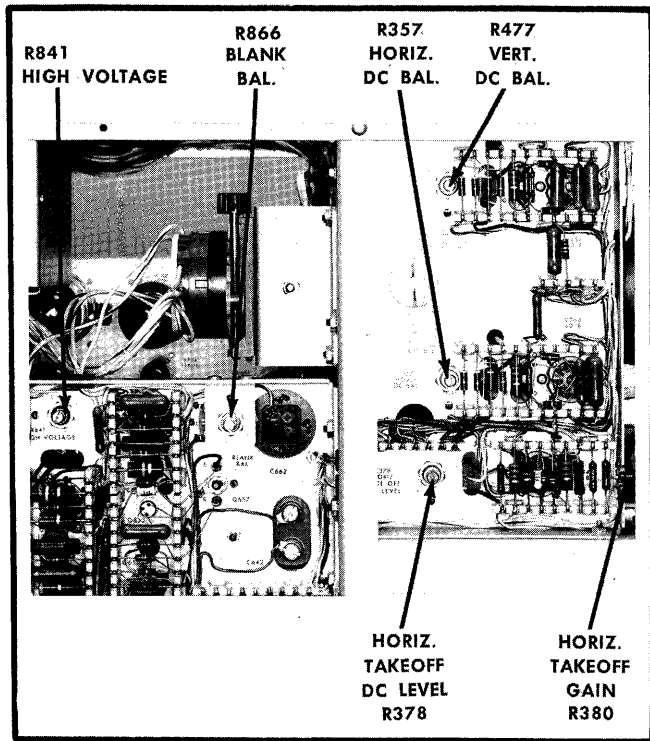
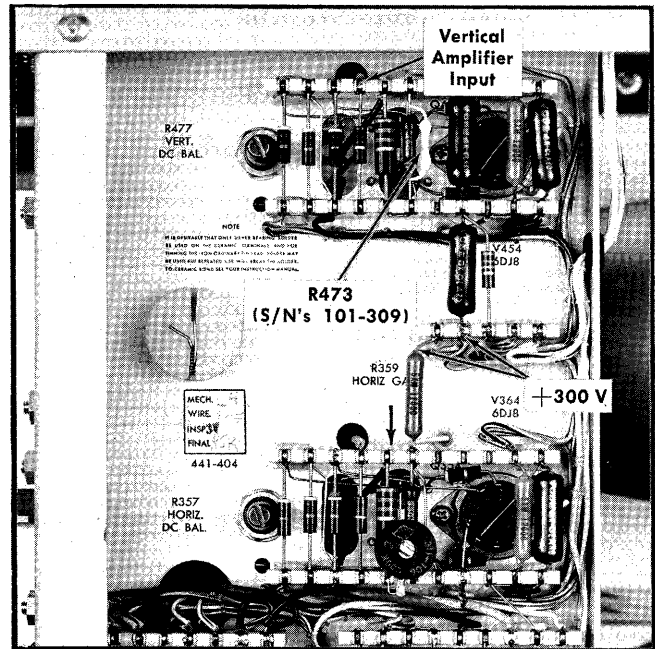

Fig. 5-2. Location of some adjustments on left side of oscilloscope (for instruments with serial numbers 101 through 309).
Fig. 5-3. Location of input to Type 661 Vertical Amplifier.
Disconnect the resistor from +300 volts. Carefully position the crt spot to the left edge of the graticule. Reconnect the resistor to +300 volts. If the spot does not move exactly 10 centimeters (plus or minus the error percentage just determined), adjust R841 (HIGH VOLTAGE control, Fig. 5-2) until the spot moves the correct amount. It may be necessary to repeat this procedure several times for proper adjustment.
Connect the dc voltmeter between the center terminal of R866 (BLANK BAL control) and pin 6 of V874 to check the differential voltage between the crt blanking deflection plates. V874 is located between the two ceramic strips adjacent to the control (see Fig. 5-2). Adjust the BLANK BAL control for zero volts on the meter. Turn off the Type 661, install both plug-in units, and turn the Type 661 back on.
Alternately connect and disconnect a 2-meg, 1% resistor between a +300-volt test point and the vertical amplifier input (see Fig. 5-3). The display should be spot alternately at -3 and $+3$ centimeters, ± 2 millimeters. If the scan is more than ± 2 millimeters from being 6 centimeters, check the vertical amplifier transistors and tubes. If they are satisfactory, then change the value of R473 according to the following procedure.
If it is necessary to change the value of R473, remove the existing resistor (Fig. 5-3). Obtain a group of $1/4$ -watt, 1% deposited-carbon resistors ranging from about 5 through 12 megohms (such as 5, 7.5, 9, 10, and 12). Grasp a new resistor with the pliers and touch its leads to the ceramic strip terminals at the location for R473. Observe the crt display for 6 centimeters. When a resistor is found that gives the correct gain, trim its leads to the correct length and solder it in exactly the same position as the resistor removed.
Alternately connect and disconnect a 2-meg, 1% resistor between a +300-volt test point and the vertical amplifier input (see Fig. 5-3). The display should be spot alternately at -3 and +3 centimeters, ± 2 millimeters. If the scan is more than ± 2 millimeters from being 6 centimeters, check the vertical amplifier transistors and tubes. If they are satisfactory, adjust the HIGH VOLTAGE control (R841; see Fig. 5-2) for 6 centimeters between spots as the 2-meg resistor is alternately applied and removed.
Connect a 1.5 k, 1% resistor between the vertical amplifier input (Fig. 5-3) and ground. Horizontally position the crt spot to the graticule centerline, and adjust R477 (VERT. DC BAL.) to vertically position the spot to the centerline.
Set the Type 661 HORIZONTAL DISPLAY switch to EXT. HORIZ. INPUT, 5 VOLTS/CM, DC. Connect the Time-Mark Generator through a 50-ohm cable and a 47 k, $\frac{1}{2}$ watt resistor to the Type 661 vertical amplifier input (shown in Fig. 5-3). Use item 20 of "Equipment Required" at the end of the 50-ohm cable. Set the Time-Mark Generator to deliver ~~50 μ sec~~ ^{500 μ sec} time marks.